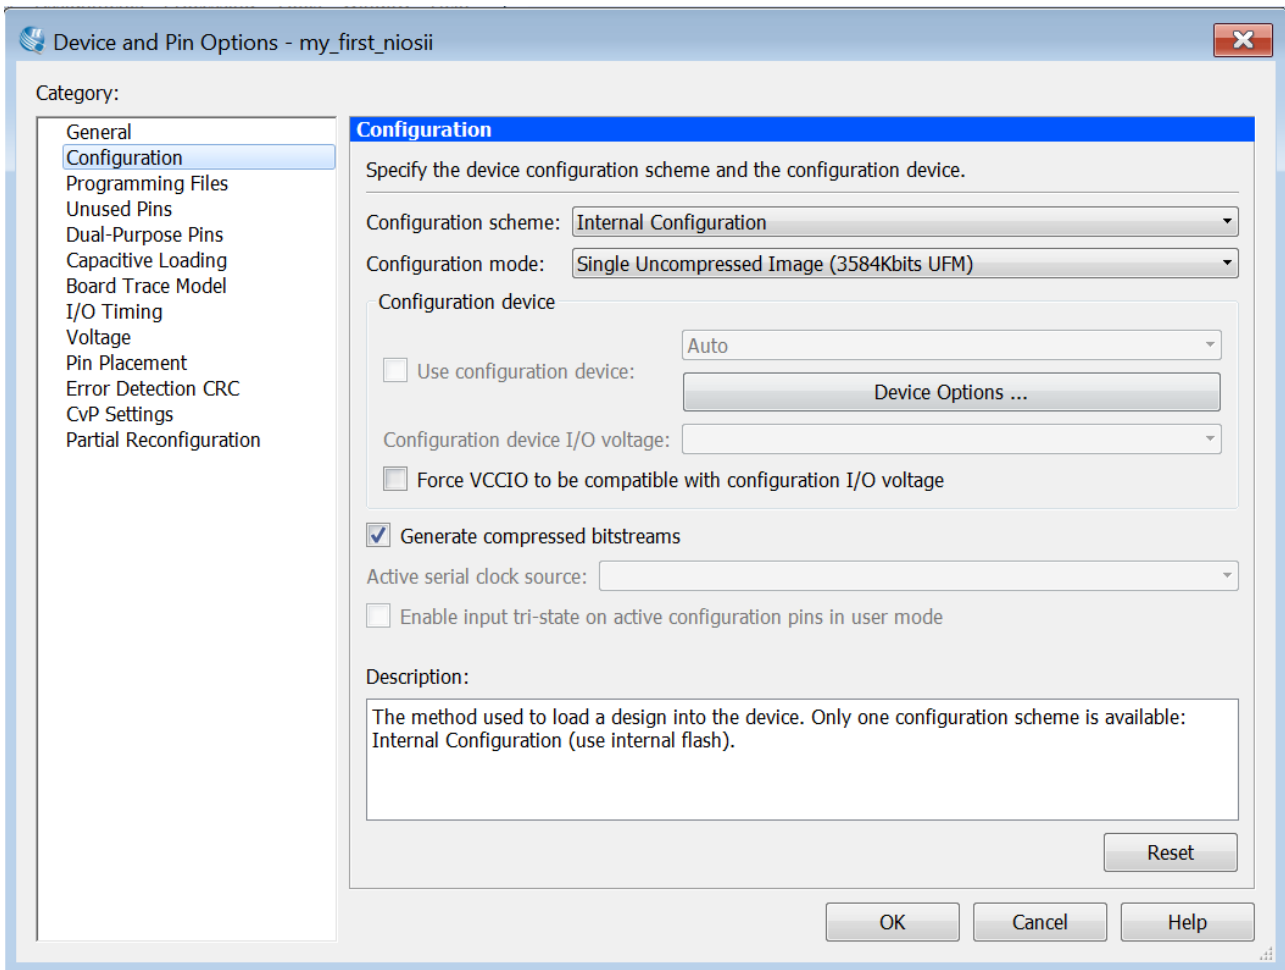

Figure 3-6 Set the Configuration mode
5. Open Quartus II and select **Assignment -> Device -> Device and Pin Options -> Configuration**. Set Configuration mode to Single Uncompressed Image (3584Kbits UFM), as shown in **Figure 3-6**. Click **OK** twice to exit the window.